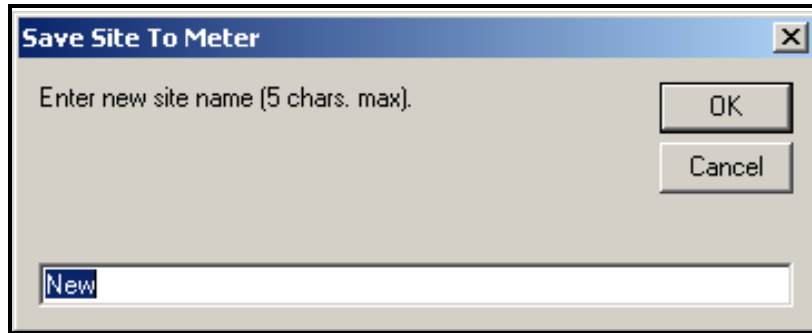

Figure 33: Site Name Entry Window
2. A window opens similar to Figure 33. Enter the desired name, and click [OK].